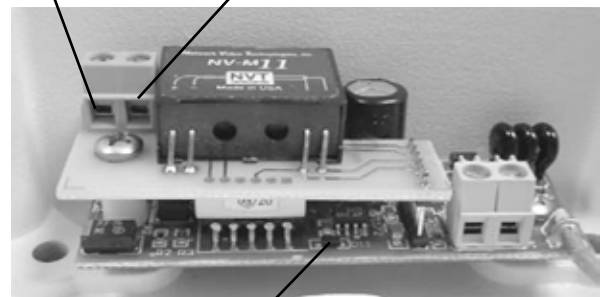

Figure 15
1. Connect the unshielded twisted pair cable to the positive and negative screw terminals on the Warrior PC board (Figure 15).